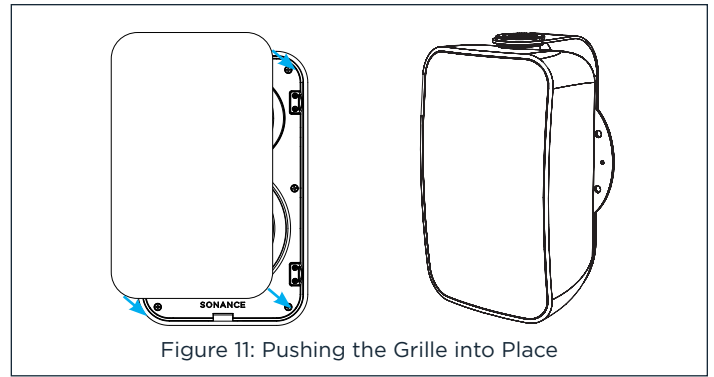

Figure 11: Pushing the Grille into Place
9. Fit the grille onto the speaker by aligning the edges of the grille with the groove of the speaker face perimeter and pressing firmly until it is snugly in place (see Figure 11).